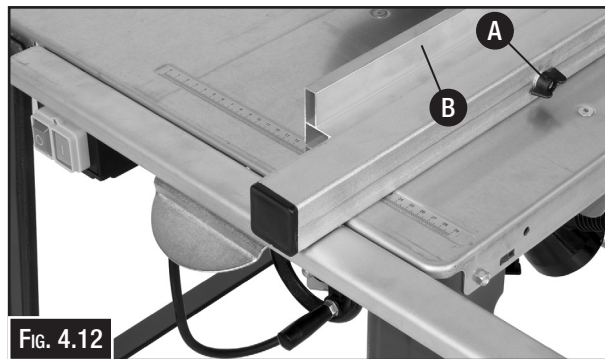

FIG. 4.12
2. Use 2 bolts and wing (A) nuts to attach the aluminium profile (B) to the rip fence body. (Fig. 4.12)